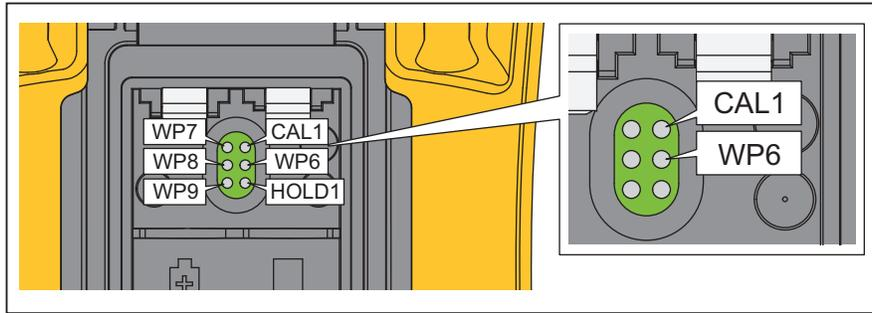
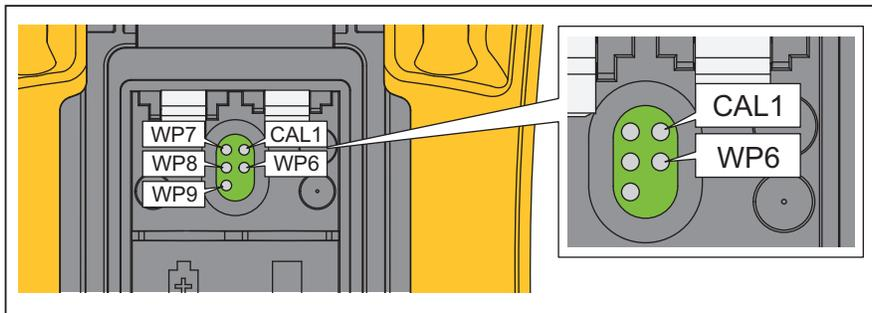

Figure 5. Calibration Adjustment for 15B+ and 17B+
Figure 7. Calibration Adjustment 18B+
4. To put the UUT in calibration mode, use a small probe to push the calibration button (CAL1) See Figure 5 for 15B+ and 17B+ and Figure 7 for 18B+.
4. On the PCB, short CAL1 and WP6 together. See Figure 5.
2. On the PCB, short CAL1 and WP6 together. See Figure 7.